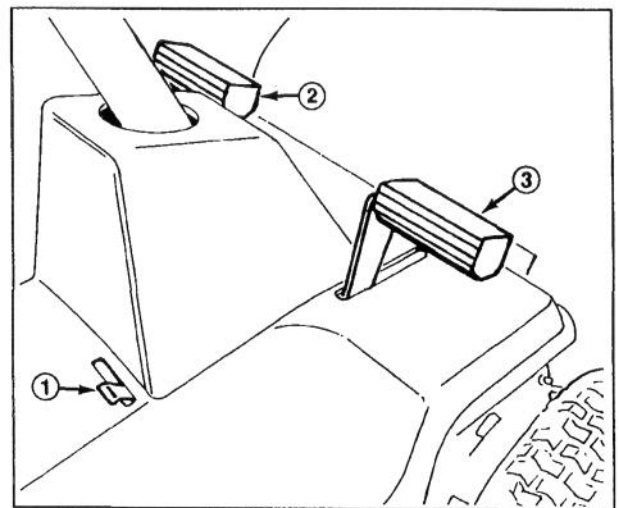

Figure 6
**Clutch Pedal (Fig. 6)**—Foot-operated clutch pedal is used in conjunction with gear shift. Depress clutch pedal fully when shifting gears. Depress clutch pedal whenever brake is used.
**Brake Pedal (Fig. 6)**—Foot-operated brake pedal must be depressed to slow down or stop the rider. When pedal is depressed, a caliper engages the brake disc on the side of the transmission. Always depress clutch pedal when using brake.
**Parking Brake (Fig. 6)**—Parking brake must be used in conjunction with brake pedal. When pedal is depressed and end of parking brake lever holds brake pedal in depressed position, a caliper engages the brake disc at side of transmission.
**Ignition Switch (Fig. 6)**—Switch has three positions: ON, OFF and START.
1. Engage the parking brake (Fig. 6): refer to using Parking Brake, page 13.
2. Move parking brake control to the left and release brake pedal until it contacts end of parking brake lever (Fig. 6).
3. To release the parking brake, depress brake pedal (Fig. 6), which will allow parking brake lever to return to its disengaged position. Then release brake pedal.